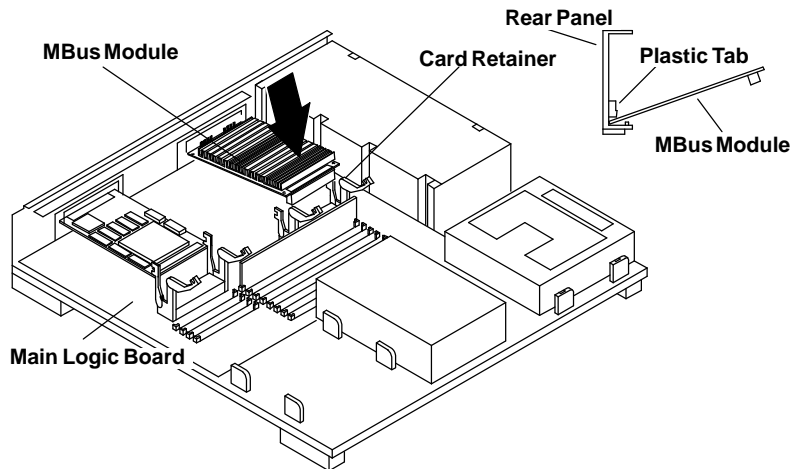

Figure 3-9. Installing the MBus Module
2. Make sure the card retainers for the module are pushed back. Refer to Figure 3-9.
The connector on the module should be facing MBus slot 0, the lower slot. Refer to Figure 3-9.
5. Push the module connector down into the socket as shown in Figure 3-9. Hold the corners of the MBus module and press down firmly until the module is seated.